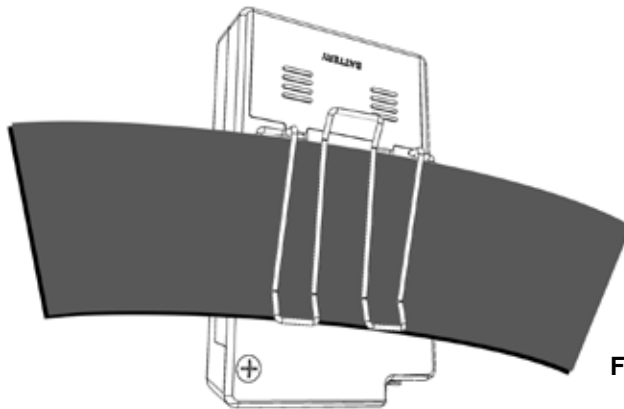

FIGURE 15
2. The clip is detachable so that you can also attach the bodypack transmitter with the input jack facing downwards. To do so, remove the clip and remount it reversing the orientation as shown in figure 15.